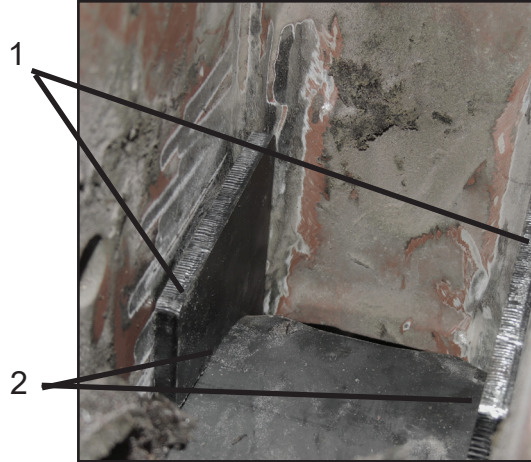

Figure 7
9. Place the two gussets (left and right) inside the arm fork lug cavity (Figure 7, Item 1). Ensure that they are placed to follow the contour of the “H” bracket (Figure 7, Item 2, looking down from the front of the truck into the arm fork lug cavity.)